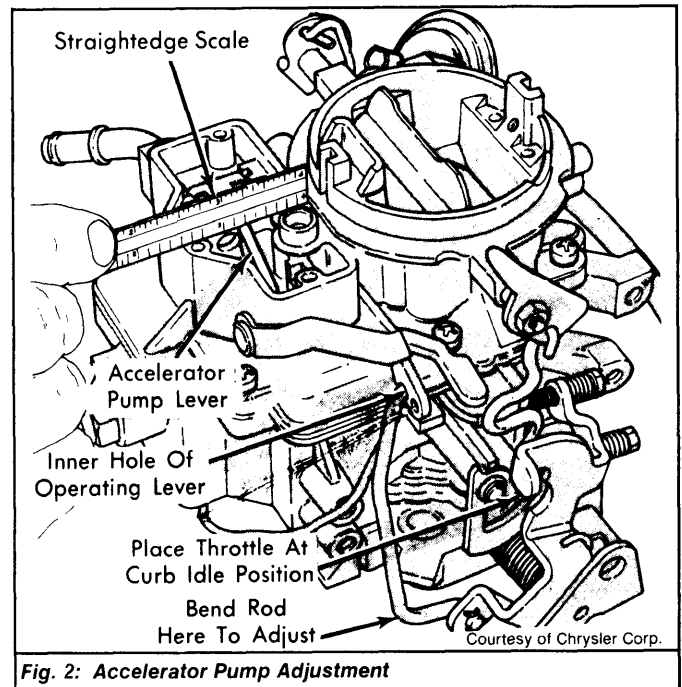

Fig. 2: Accelerator Pump Adjustment
1) Remove bowl valve vent cover and spring. Use care not to dislodge or lose vent valve retainer. Install accelerator pump rod in inner hole. See Fig. 2.
3) Pump lever should just be contacting straight edge. See Fig. 2. To adjust, bend accelerator pump rod. Install vent valve spring and cover.